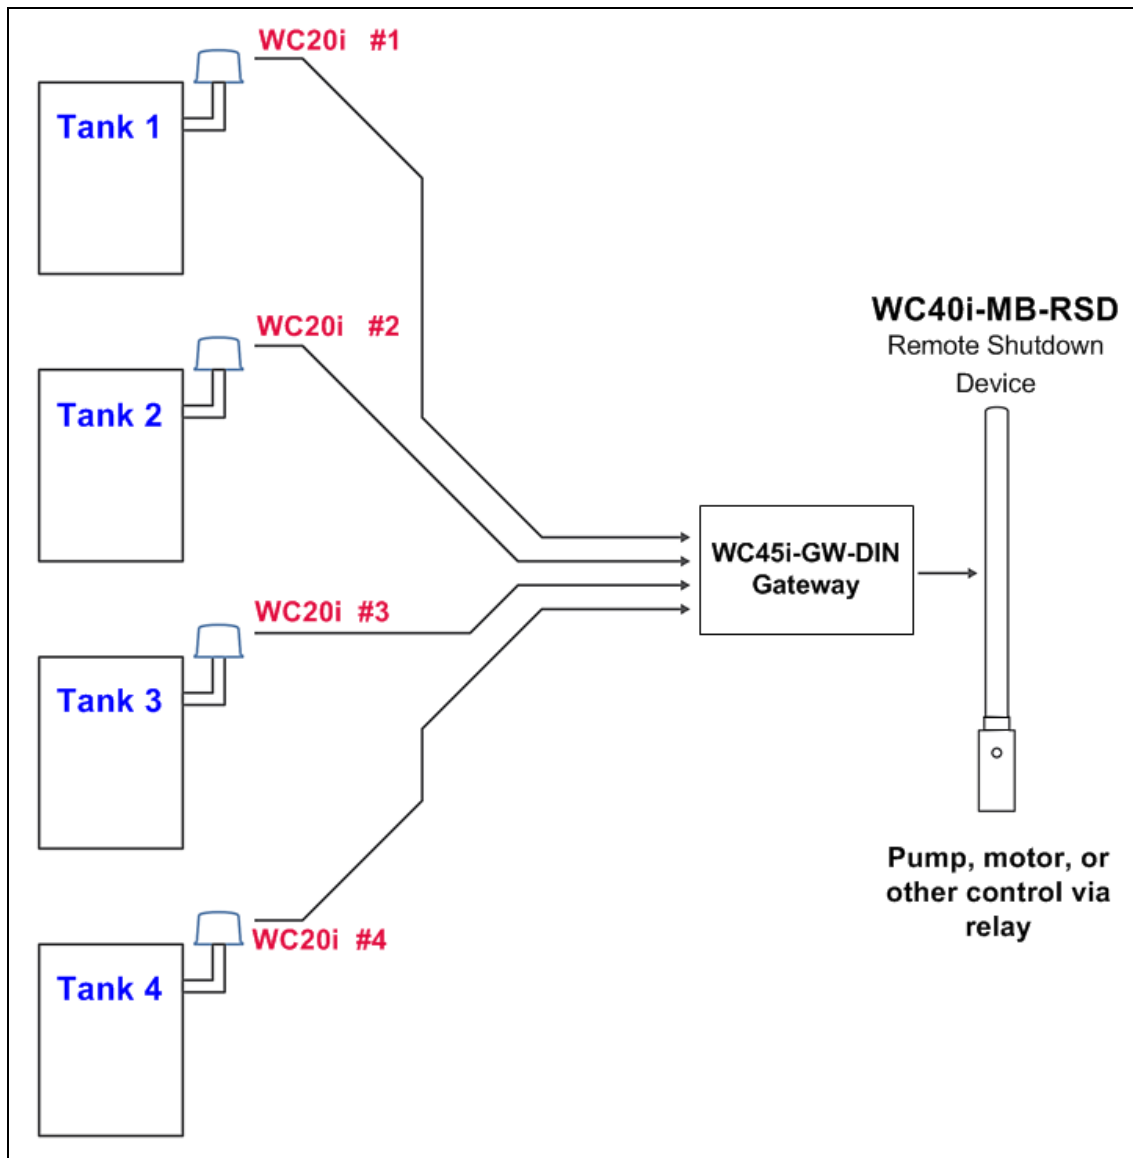

Figure 30: Example: WC45i-GW-DIN Topology
- An example of the topology is shown in Figure 30.